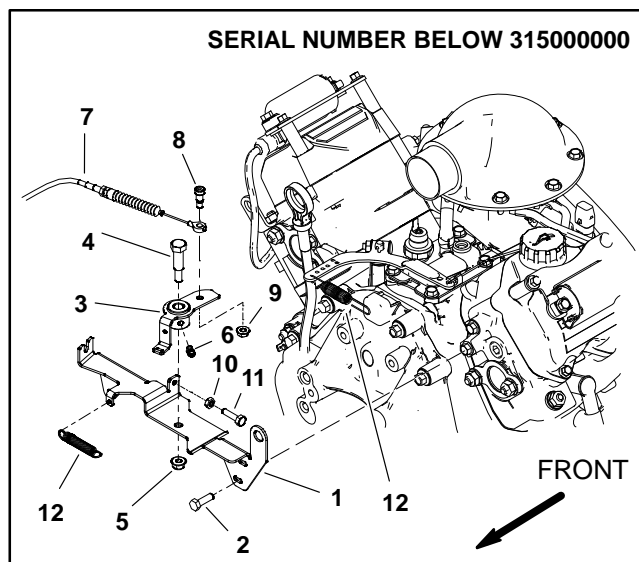
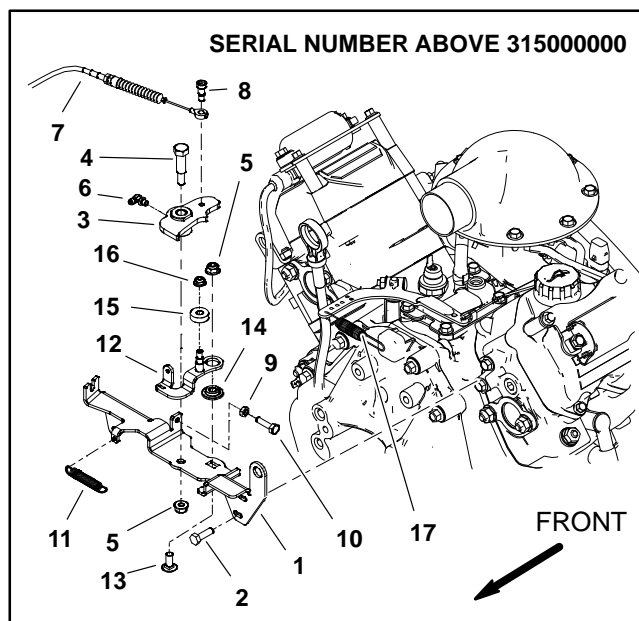

Figure 4
Figure 5
Two styles of accelerator control have been used on Workman HDX Auto machines. On vehicles with serial numbers below 315000000 (Fig. 4), the accelerator control includes a bellcrank that is rotated by the accelerator cable to change engine speed. Vehicles with serial numbers above 315000000 (Fig. 5) use an accelerator control with additional components.
Disassembly (Fig. 4 or 5)
4. Remove accelerator control components as needed using Figure 4 or 5 as a guide. If engine governor spring needs to be disconnected from bellcrank, note attachment points for assembly purposes.
Assembly (Fig. 4 or 5)
1. Install removed accelerator control components to engine using Figure 4 or 5 as a guide.
2. On vehicles with serial numbers above 315000000 (Fig. 5), make sure that ball bearing (item 15 in Fig. 5) is lightly contacting bellcrank. If necessary, loosen flange nut (item 5 in Fig. 5) and move throttle lever until ball bearing is in light contact with bellcrank. Tighten nut after adjustment.
3. Make sure that the engine governor spring is at the end of the slot in the bellcrank (item 3 in Fig. 4) or throttle lever (item 12 in Fig. 5) without being tensioned. If the governor spring is tensioned, the engine throttle will not be closed when the accelerator pedal is released.